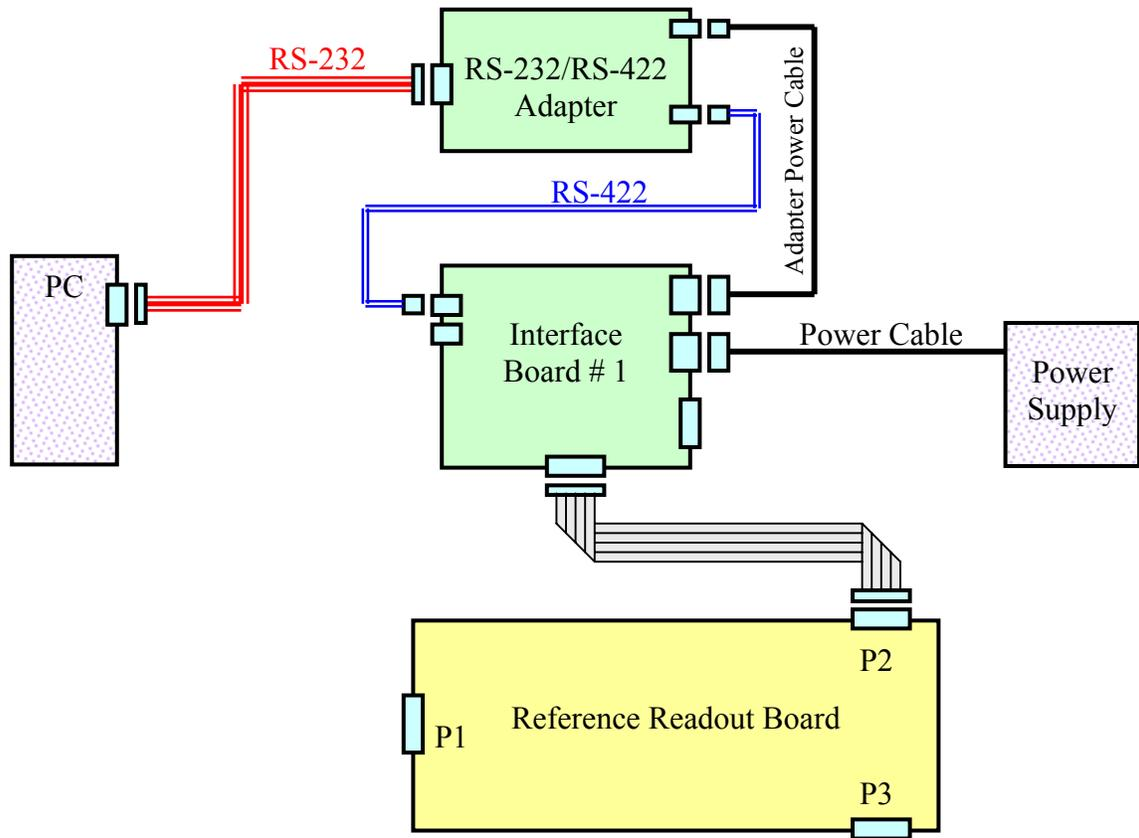

Fig. 10. Diagram of connections
3. Connect the reference readout board to the tested interface board as shown in Fig. 10 and switch on power. Check +3.3V output voltage of the DC-DC converter.